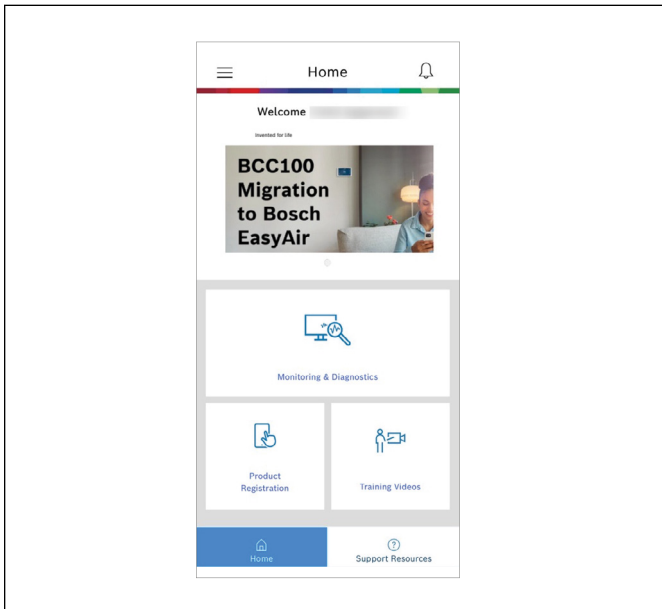

Figure 56
5. Launch the Bosch EasyAir App and access "Monitoring & Diagnostic" from the Home Page (Figure 56).